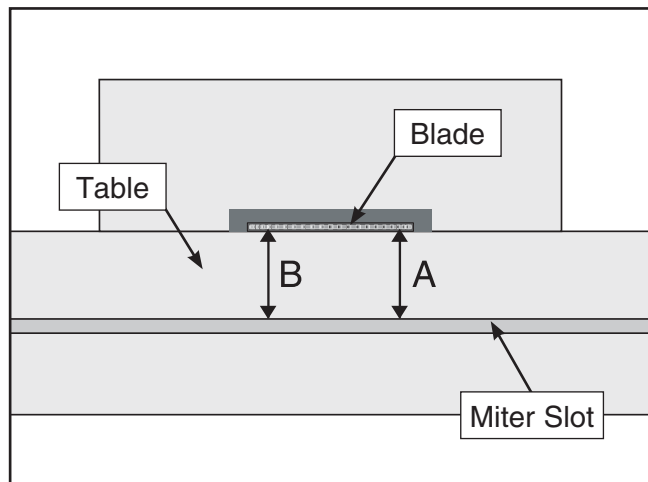

Figure 96. Measuring gap between the table and the blade.
4. Using an adjustable square or a dial indicator, measure the distance (A) between the miter slot and the front of the blade, as shown in **Figure 96**.